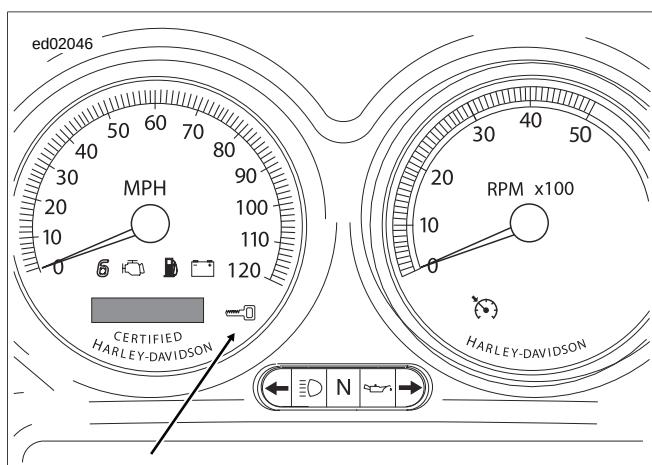

Figure E-8. Security Lamp (Key Icon)
- See Figure E-8. When the Ignition Switch is turned IGNITION, the security lamp will illuminate for approximately four seconds and then turn off.